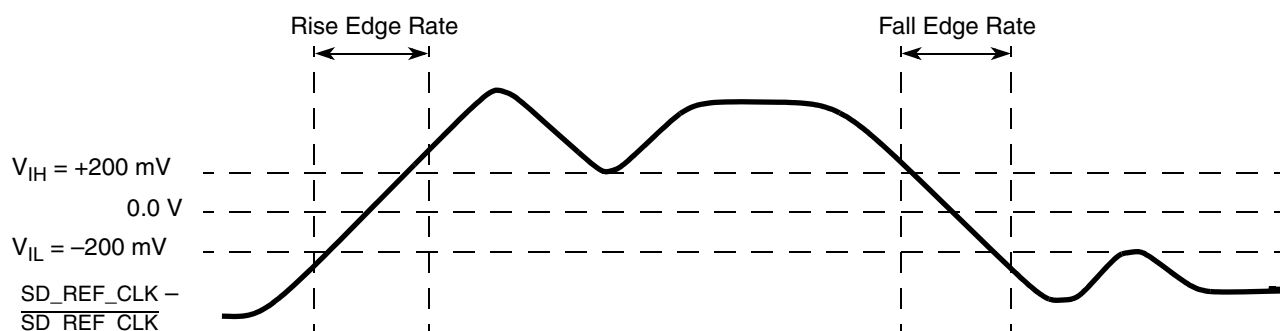

Figure 55. Differential Measurement Points for Rise and Fall Time
3. Measured from -200 mV to $+200\text{ mV}$ on the differential waveform (derived from SD_REF_CLK minus $\overline{\text{SD_REF_CLK}}$). The signal must be monotonic through the measurement region for rise and fall time. The 400 mV measurement window is centered on the differential zero crossing. See Figure 55.
Figure 55 shows the differential measurement points for rise and fall time.